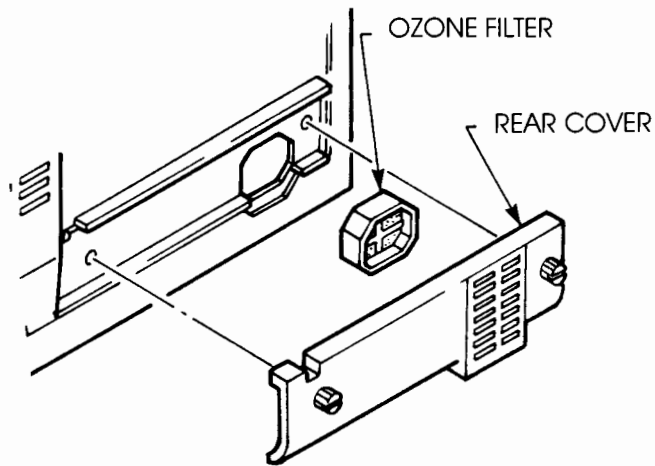

Figure 4-15. Removing Rear Cover
- a. Remove the screws on the rear cover with a coin and remove the cover (figure 4-15).